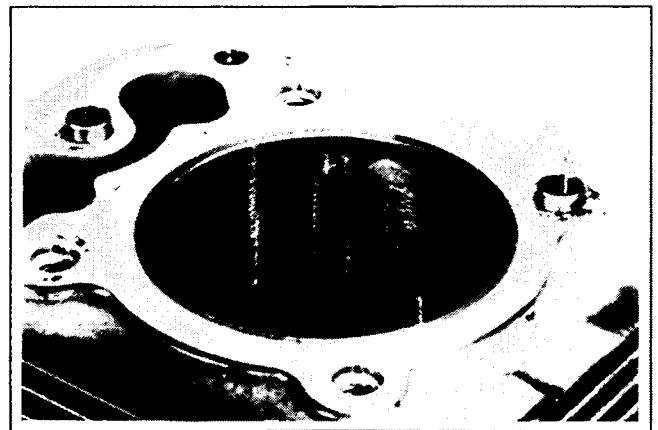

Figure 10–2. Cylinder Bore Crosshatch After Honing.
3. When the bore is within **0.064 mm (0.0025 in)** of desired size, remove the coarse stones and replace with burnishing stones. Continue with the burnishing stones until within **0.013 mm (0.0005 in)** of desired size and then use finish stones (220–280 grit) and polish to final size. A cross-hatch should be observed if honing is done correctly. The crosshatch should intersect at approximately **23–33°** off the horizontal. Too flat of an angle could cause the rings to skip and wear excessively, too steep of an angle will result in high oil consumption (refer to Figure 10–2).
See Figure 10–6 for some common types of piston and ring damage.